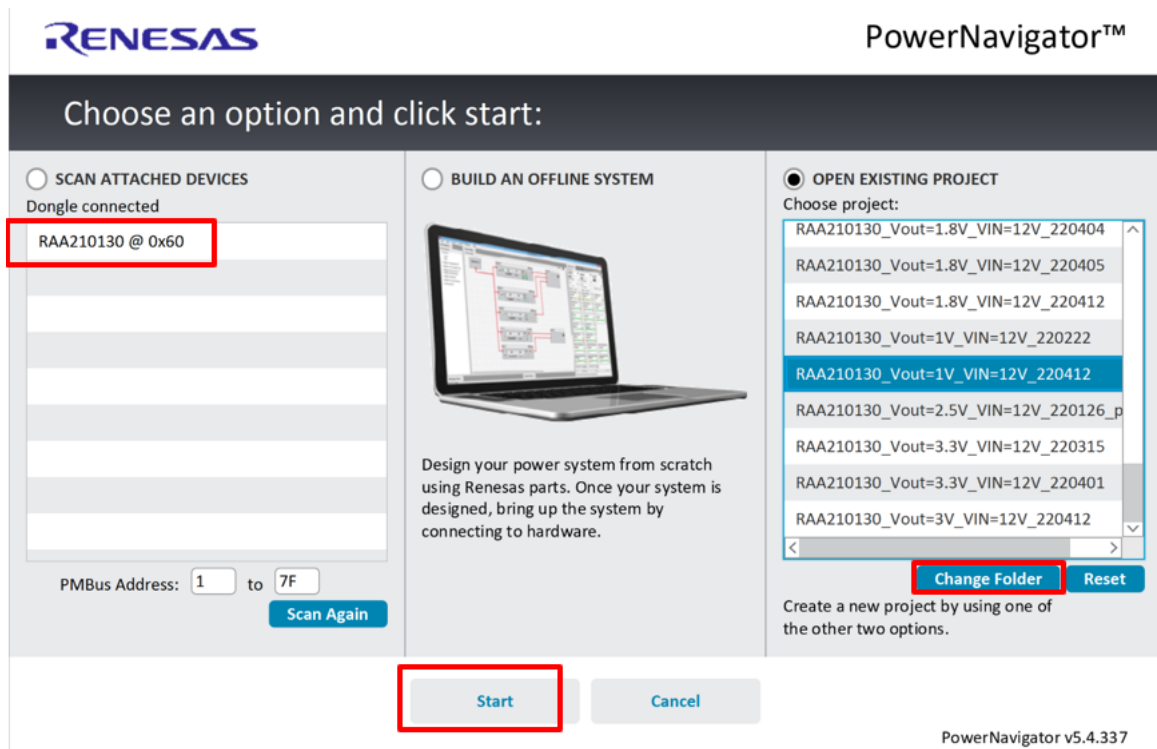
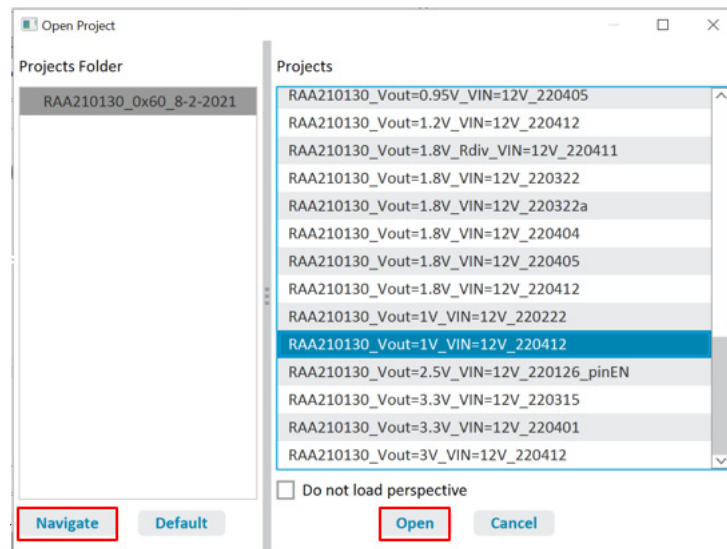

Figure 2. First screen of Power Navigator. Observe RAA210130 Module Part Number and Address
Figure 3. Open Project Window for Navigating to the Location where the Configuration File is Stored
7. Observe module part number and I²C address(0x60) under the scanned devices as shown in Figure 2.
8. Click on **Open Existing Project** as shown in Figure 2. Click on **Change Folder** if the configuration file is not in the current folder. A window called **Open Project** pops up as shown in Figure 3. Click on **Navigate** to navigate to the folder where the configuration file is stored. Select a project on the right-hand side to write to NVM. Select **Open**.